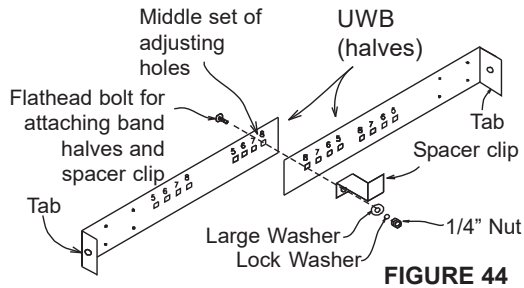

FIGURE 44
1. Place the two halves of the UWRS Band as shown in Figure 44. Insert the flat head bolt through the middle set of holes in the band halves marked with the corresponding pipe diameter of the chimney being installed.
The bolt should pass through the band halves with the tabs oriented outward as per Figure 44.
2. Place the Spacer Clip on the bolt used in the middle of the assembly and secure with washers and nut (see Figure 44).
Where horizontal adjustability is needed, a Universal Wall Band can be used. For more detailed instructions see the Universal Wall Band section, Steps 1 through 9 and Figures 44 through 45c.